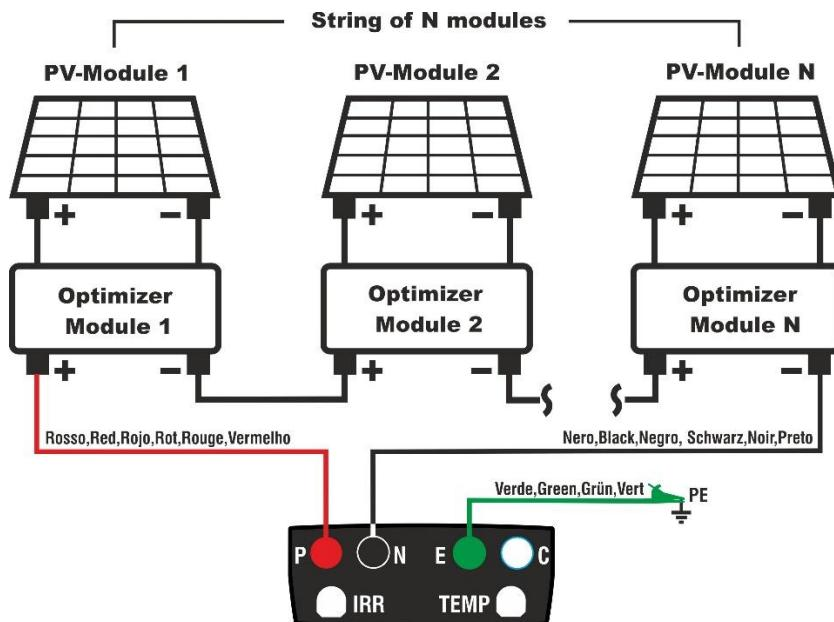

Fig. 10: Connection instrument for insulation measurement with optimizers
- Connect the instrument to the output of the series of optimizers associated with the string under test as shown in Fig. 10. Specifically, connect the positive pole output from the **first optimizer** to terminal P, the negative pole output from the **last optimizer** to terminal N, and terminal E to the system's main ground reference